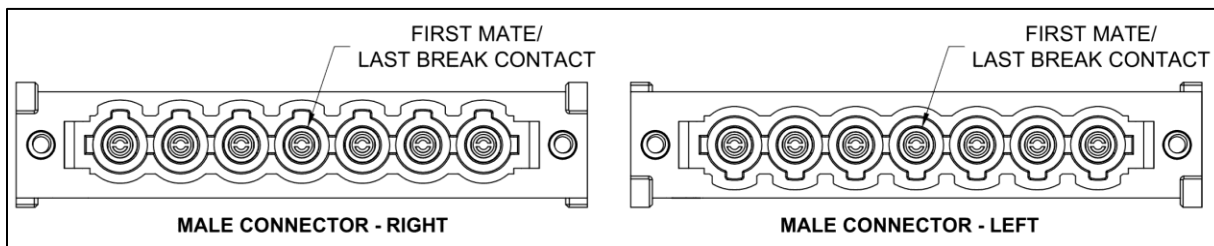

Figure 9.1 Male connector first mate / last break contacts
- First mate / last break contact position is shown below in Figure 9.1 for left and right connector